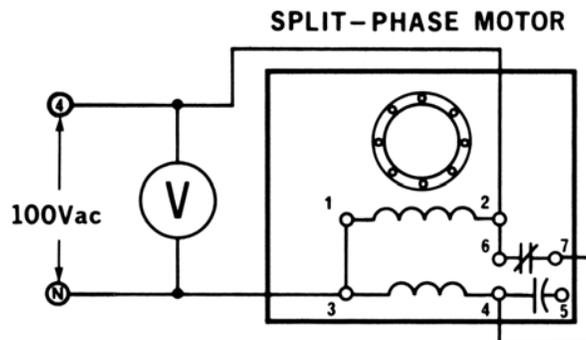

Figure 6-4
- 9) Connect the circuit as shown in Figure 6-4. Observe that the centrifugal switch is connected in series with the auxiliary winding and both windings are connected in parallel to the 100 V AC.